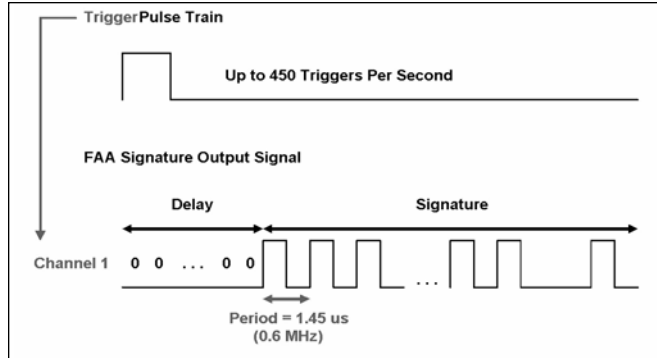

Figure 3
- at 0.6 MHz frequency (figure 3)